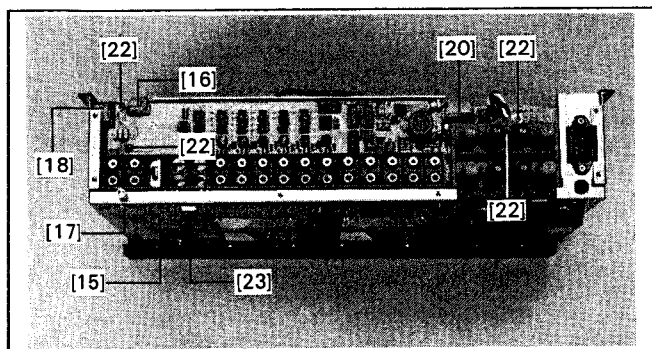

Fig. 2.6
- Unfasten 1 screw (17) on the bottom (Fig. 2.6).
- Separate the plug connection (18) to the INTERCONNECTION UNIT board.